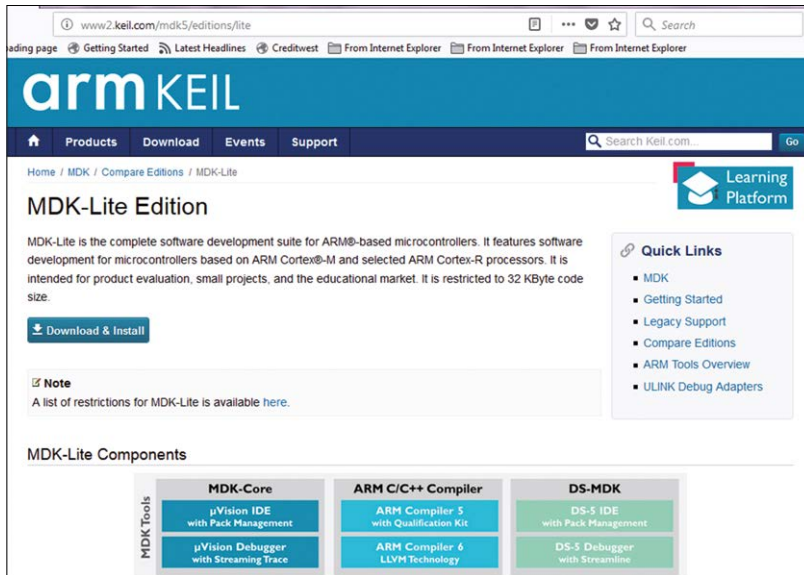

Figure 3.9: Download the MDK-Lite IDE.
- Download the IDE from the following link (see Figure 3.9). You should download the MDK-Core. You will have to register before you can download the IDE.